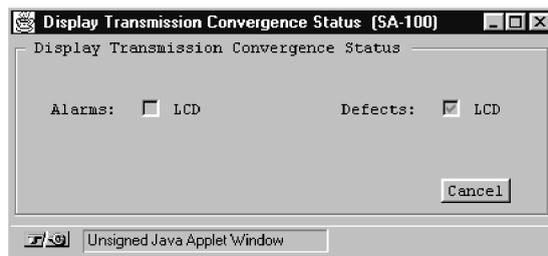

Figure 6-22. Display Transmission Convergence Status Window
2. Choose the Next Logical Layer button in the DS1/E1 Faults window. The Display Transmission Convergence Status window appears (see Figure 6-22).